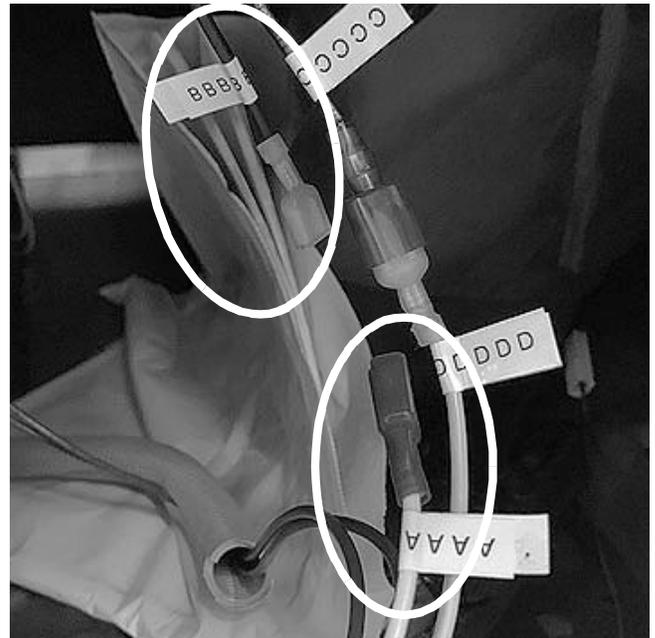

Fig. 15 Disconnect A and B
2. Disconnect the yellow wire labeled A and black wire labeled B. (See Fig. 15)
6. Leave black wires labeled B and C disconnected. (See Fig. 15)